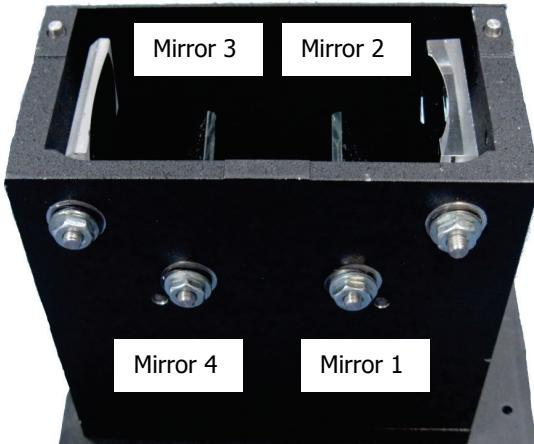
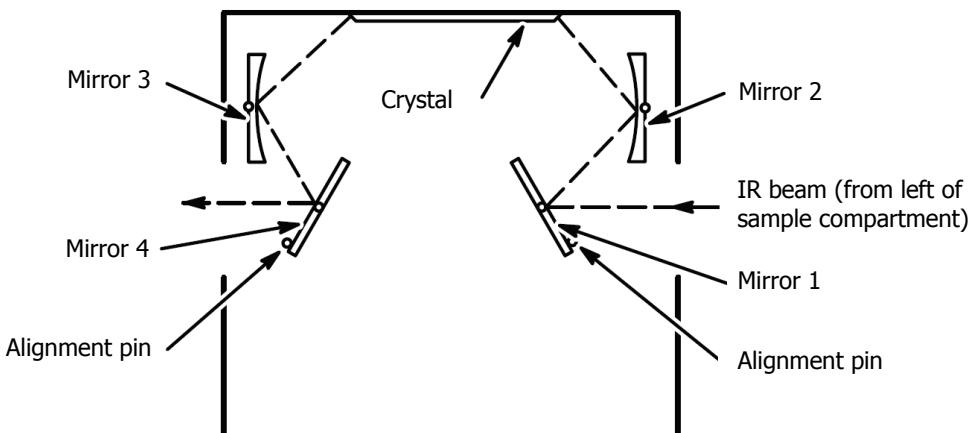

Figure 9 HATR with top plate removed (viewed from rear to show the adjustment nuts)
Figure 10 Optical path of the accessory
7. Make sure that mirrors 1 and 4 (Figure 9) are against their alignment pins, using the wrench supplied.
The top plate of the accessory can be removed to confirm this. Figure 9 shows the mirrors and the corresponding adjustment nuts on the rear of the HATR are shown.
Figure 10 shows the optical path of the accessory, viewed from the rear as in Figure 9.